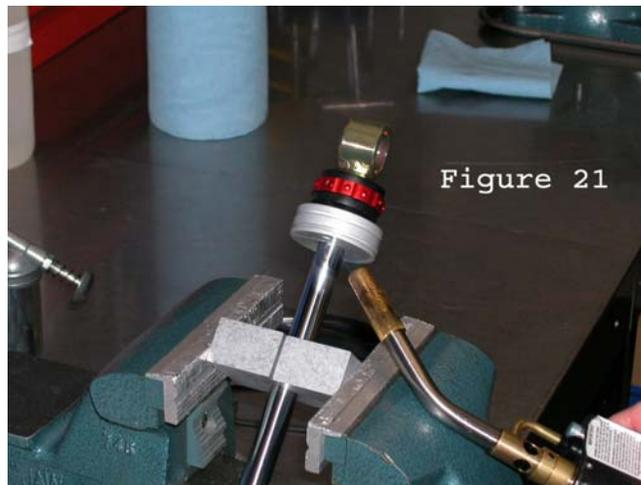

Figure 21
48. Using proper shaft clamps, mount shaft securely in vice. **(Fig. 21)** A very high level of clamping force is required to prevent shaft from spinning in clamps. Allowing the shaft to spin in clamps can cause permanent damage to the shaft and may cause the shock to leak.
49. Heat eyelet flange with a torch to loosen the thread-locking compound that secures the eyelet to the shaft. **(Fig. 21)** Extreme caution is to be used when operating a torch. Refer to the torch manufacturers owner's manual for proper operation instructions. Follow all safety guidelines.